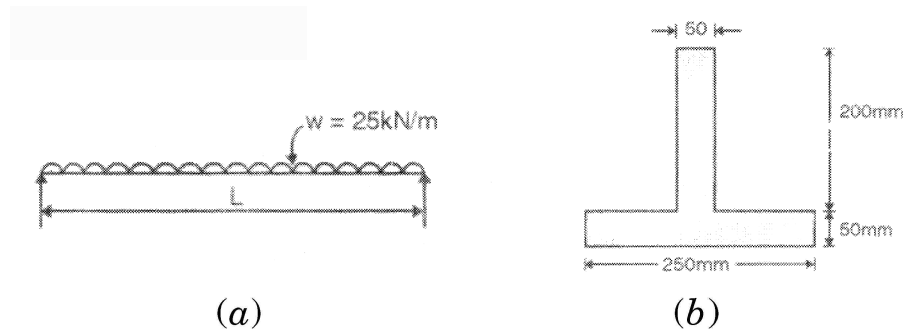

Fig. 6
4. (a) A simply supported beam carries a UDL of 25 kN/m over the entire span of the beam is shown in Fig. 6. If the maximum bending stress is 60 MPa, find the span of the beam. Also find the maximum shear stress developed in the section. Draw the shear stress distribution diagram. [6]